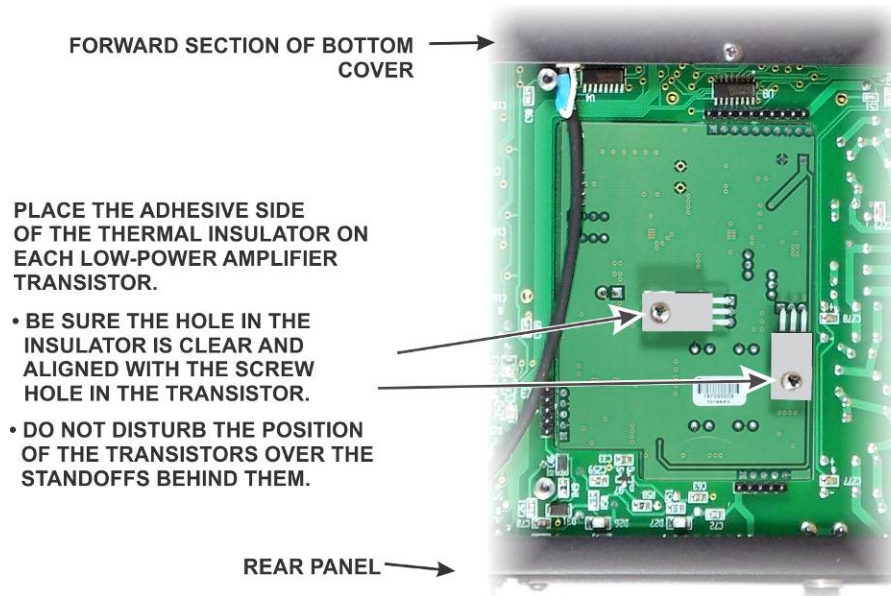

Figure 100. Installing the KLPA3A Transistor Thermal Insulators.
□ Locate the two thermal insulators and clear the screw holes. They are already cut. If material is still covering the holes, push a small tool through the hole to remove the unwanted material. Remove the protective backing from each insulator and press the adhesive side against a low-power amplifier transistor with the hole in the insulator aligned with the screw hole in the transistor as shown in Figure 100. Take care not to disturb the position of the transistors over the standoffs.